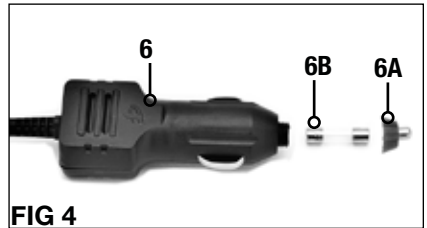

FIG 4
**12V DC ADAPTOR FUSE REPLACEMENT (FIG 4)**